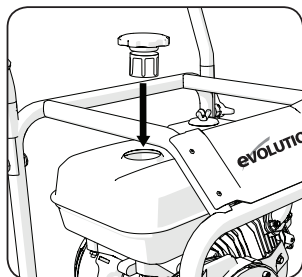

Fig 23
- When refitting ensure that the 2 cut outs on the top edge of the filter line up with the cut outs in the fuel tank filler neck. **(Fig. 23)**